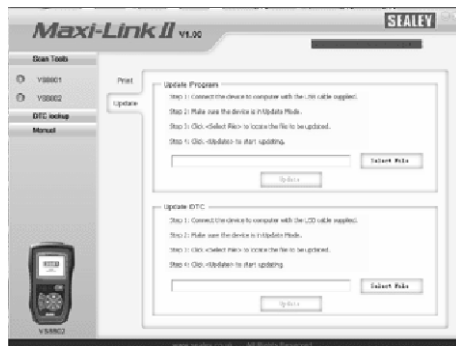

Figure 3.12
- 2) Run the Sealey disc on your computer. (Figure 3.12)
- 5) Select the programs to be updated on your computer. There are two types of programs: operating system and DTC library. (Figure 3.12)